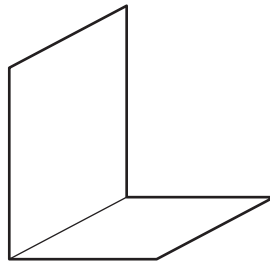

Fig. 8
- (ii) Use sketches and notes to design a jig that will enable a batch of 100 identical acrylic covers as shown in Fig. 8 to be made.